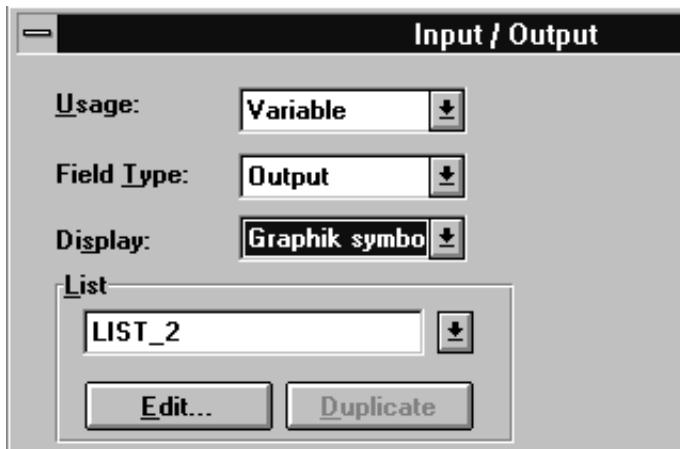

Figure 7-7 Selecting Graphic Symbols for Graphic Lists
2. In the *Input/Output* dialog, select *Display: to read Graphic Symbol*. Figure 7-7 shows the dialog box with the selection. Click at *List* on the *Edit* button.